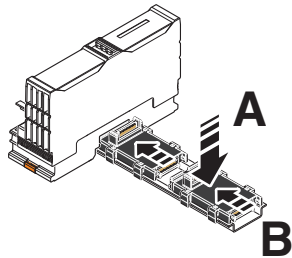

Figure 5-7 Connecting bus base modules with each other and with the bus coupler
- Place all bus base modules necessary for the station on the DIN rail (Figure 5-7, A). Observe the proper orientation of the bus base modules. When mounting on horizontal DIN rails on the wall, the logo must be readable and the laser-engraved arrow should point towards the bus coupler.
- Push the bus base module into the connection of the bus coupler or the previous bus base module (Figure 5-7, B).